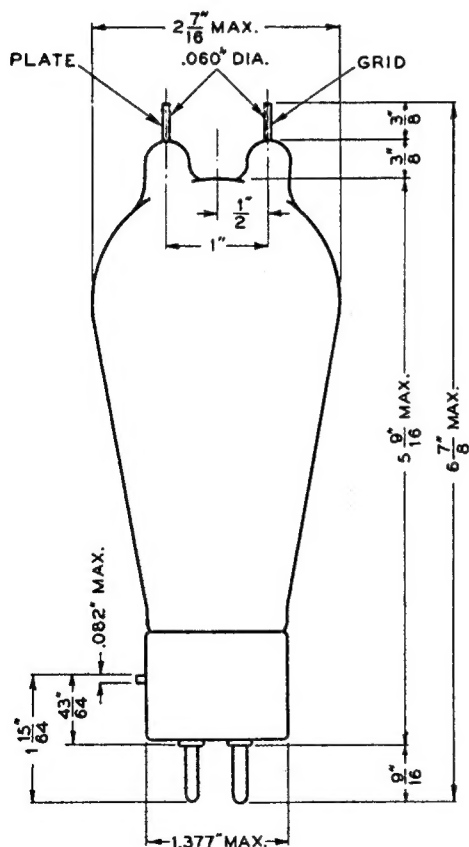

FIG. 1
**Dimensions—**Dimensions and outline diagrams are shown in Figures 1 and 2. The overall dimensions are:
**Mechanical**—Figs. 1 and 2 show the overall dimensions and basing arrangement for the tube.